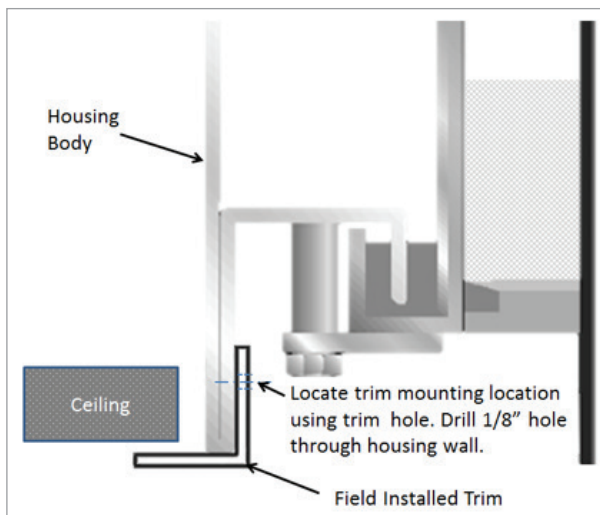

Fig. 09 Field-Installed Trim 2
3. Dry fit factory-supplied field-installed trim and while in position, mark proper fastening locations and drill 1/8" hole into AstroHood™ housing (see Fig. 09).